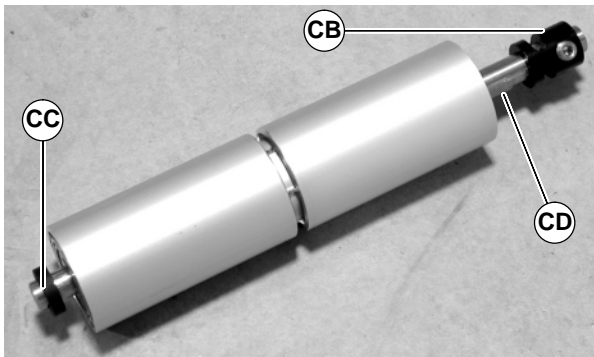

Figure 66
8. Remove the tension pulley locking collar (CB of Figure 66), spacer (CC) and pulley shaft (CD) from the roller pulley shaft assembly.